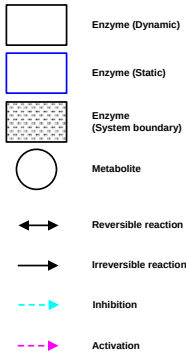

Figure S2 (Continued.)
Figure S2 Dynamic/static distinctions displayed on the metabolic map. (A) *E. coli*, weighting coefficient (w) = 1.000; (B) *E. coli*, w = 0.750; (C) *E. coli*, w = 0.500; (D) *E. coli*, w = 0.250; (E) *E. coli*, w = 0.100; (F) *E. coli*, w = 0.075; (G) *E. coli*, w = 0.050; (H) *E. coli*, w = 0.025; (I) *E. coli*, w = 0.010; (J) *S. cerevisiae*, w = 1.000; (K) *S. cerevisiae*, w = 0.750; (L) *S. cerevisiae*, w = 0.500; (M) *S. cerevisiae*, w = 0.250; (N) *S. cerevisiae*, w = 0.100; (O) *S. cerevisiae*, w = 0.075; (P) *S. cerevisiae*, w = 0.050; (Q) *S. cerevisiae*, w = 0.025; (R) *S. cerevisiae*, w = 0.010.